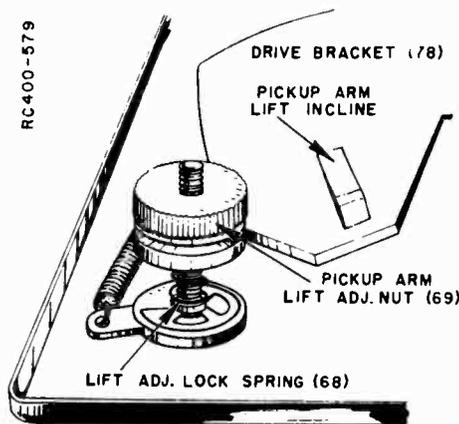

Figure 6. Adjusting Pickup Arm Height.
With the record changer out of change cycle and the pickup arm clear of the turntable, adjust the pickup arm lift adjusting nut (69) (see figure 6), so that the needle rests 1/16" above the top of the changer pan. Turning the nut (69) clockwise raises the pickup arm; turning it counter-clockwise lowers the pickup arm.